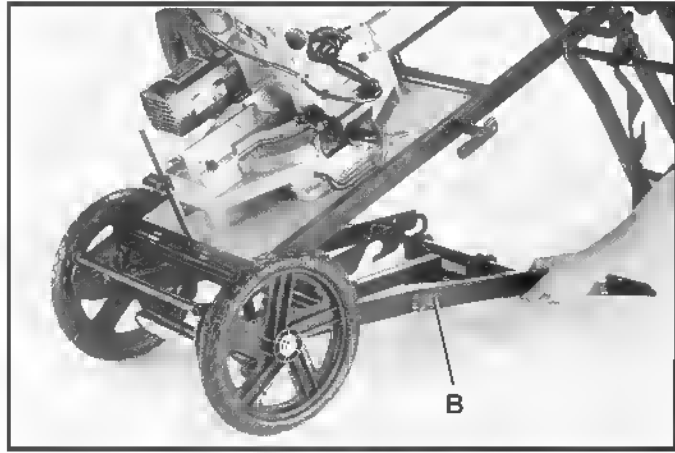

Fig. 50
2. Lift and fold leg assembly (B) underneath stand as shown in Fig. 50.